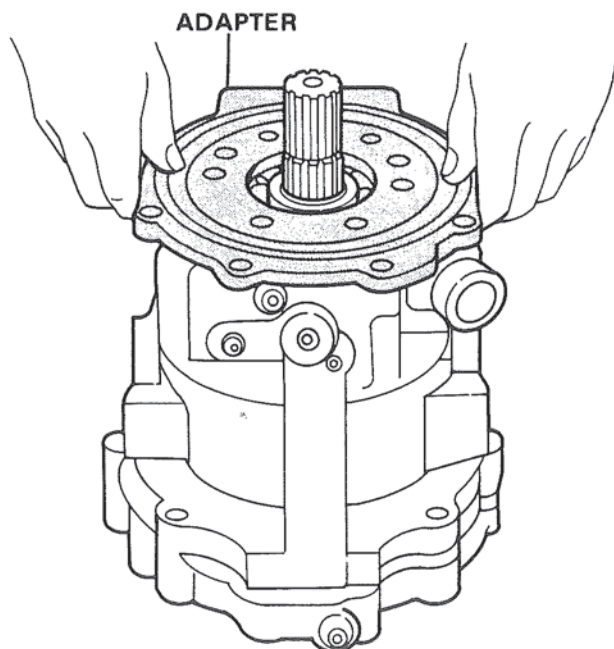

Figure 11. Removing Reduction Unit Adapter.
9. Remove the reduction unit adapter. Figure 11.